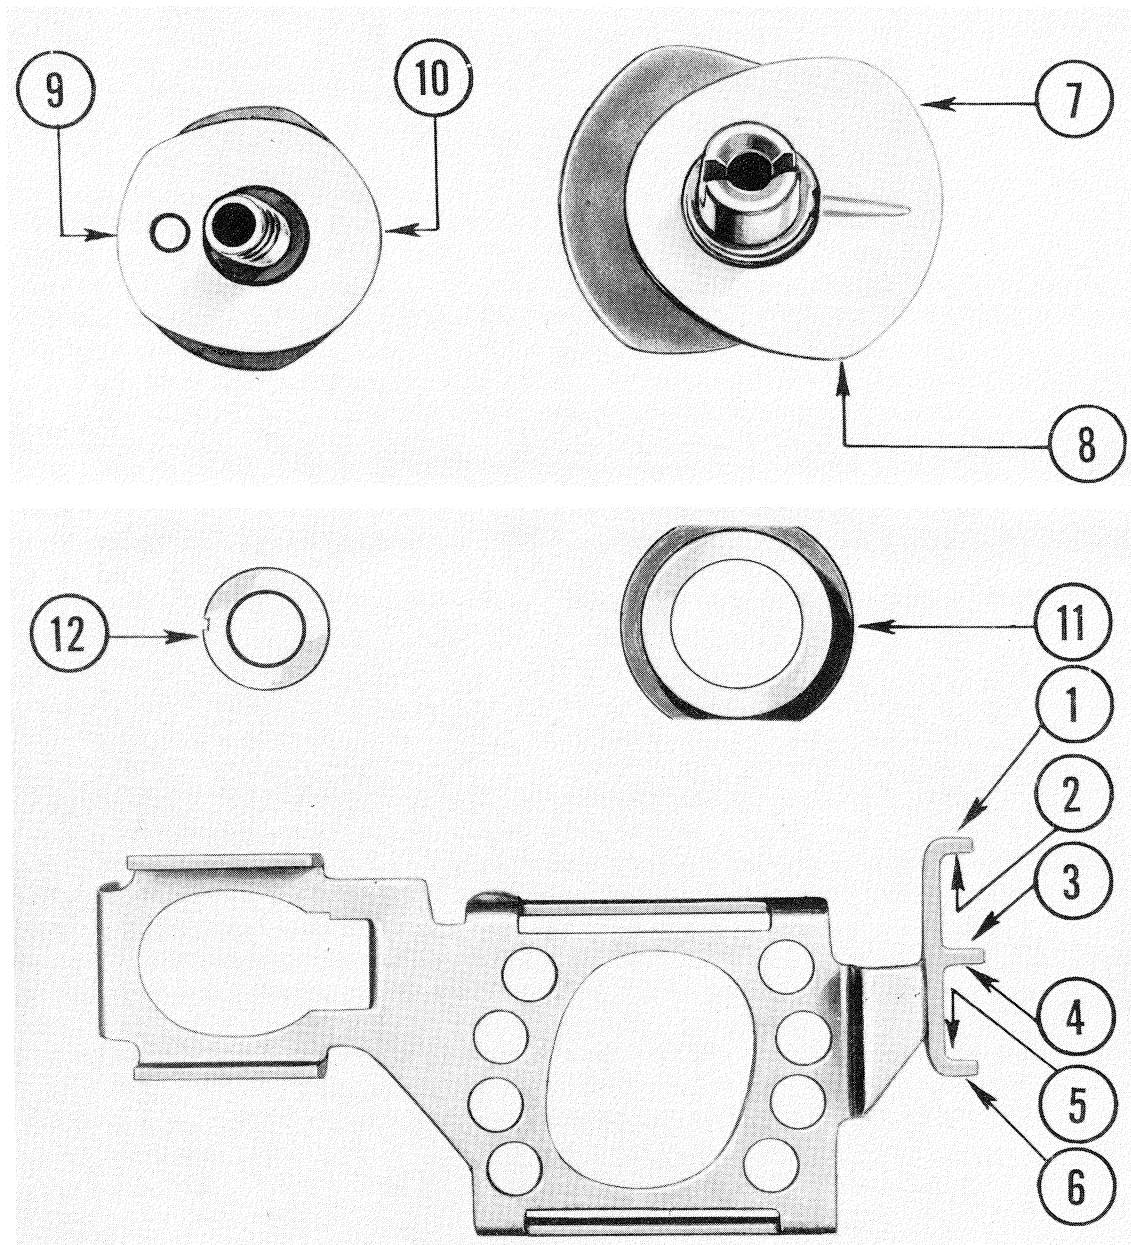

FIGURE 15—INTERMITTENT PARTS
- (2) Intermittent Unit (ALL) (See Fig. 15) - Check the camshafts for play in the bearings. If play exceeds .001", replace the bearings. Check the camshafts for wear or scoring. If worn replace them. Light score marks can usually be removed by polishing with crocus cloth. Check the vertical cam for flat spots at points 7 and 8, replace if worn. Check the lateral cams for wear at points 9 and 10, replace if worn. Inspect the shuttle gibs for wear. If they are not worn more than .005" they can be honed flat. Check the claw teeth for wear, if they are not cut more than .010" - .012" they can be honed.
Fit the shuttle to the lateral clamp block (11 Fig. 15) so that the clamp block is a push fit in the gibs. Peen the gibs if necessary to close them and then hone them and check for parallelism. Install the shuttle on the lateral cams with the claw facing the back of the lamphouse and check for fit. The shuttle should fit snugly on the cams but should not bind. If it is loose, support one gib on a block and peen the other gib at the point where it is formed out from the shuttle body. Hone the faces of the gibs to restore parallelism and obtain the proper fit on the cams. Install the shuttle in the regular position and check the fit of the vertical gibs on the vertical cam. Peen and hone as necessary. Install the lateral cam washer and lateral cam nut. If the mechanism tightens up when the lateral cam nut is tightened, hone the face of the clamp block (11 Fig. 15). If endplay is present in the assembly, hone the pivot bushing (12 Fig. 15). Be sure the lateral cam washer is flat. Install the vertical cam shoulder washer and vertical cam nut. Run the mechanism at sound speed and check for noise. If noise is present, press forward on the rear lateral gib; if the noise stops the shuttle is loose on the lateral cams. Press down on the shuttle, if the noise stops the shuttle is loose on the vertical cam. Press in on the face of the clamp block, if the noise stops there is too much endplay in the shuttle pivot or lateral camshaft.